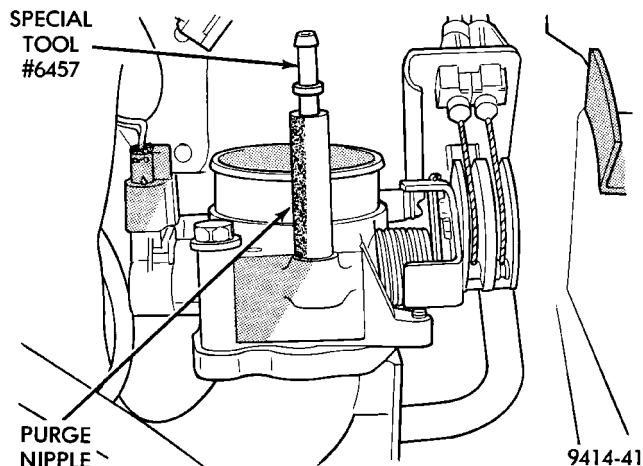

Fig. 84 Orifice 6457 Attached to Purge Nipple
(4) Use a piece of hose to attach Air Metering Orifice 6457 (0.125 in. orifice) to the purge nipple on the throttle body (Fig. 84).